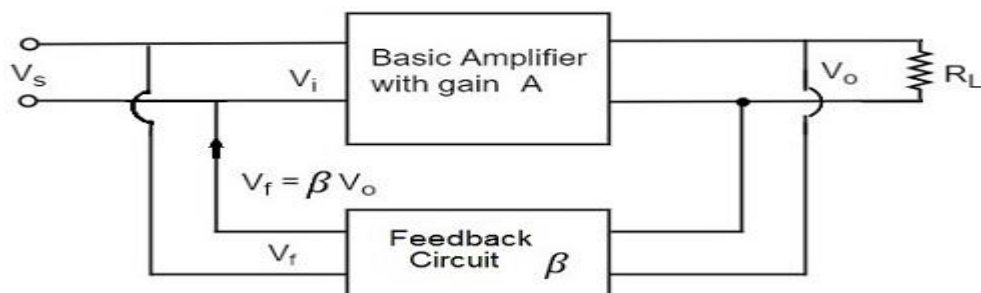

Fig1.4.3. voltage shunt feedback circuit
- The below figure 1.4.3 shows the block diagram of voltage shunt feedback, by which it is evident that the feedback circuit is placed in shunt with the output and also with the input.